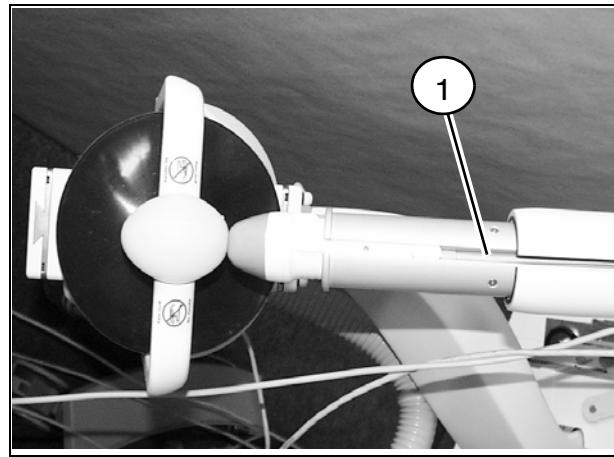

Fig. 22
- Check whether the ultrasound arm is as shown in Fig. 22; if not, position it accordingly. The long slot must be visible (1/Fig. 22).